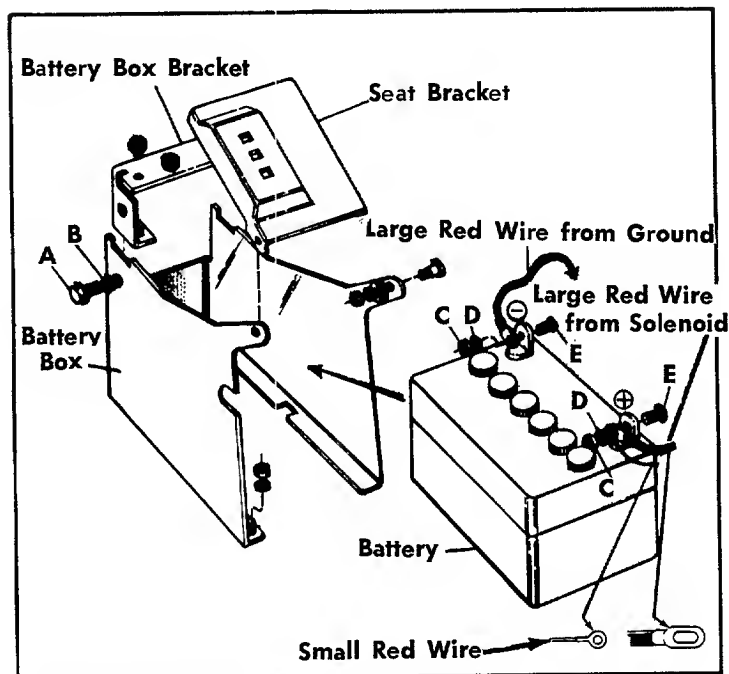

FIGURE 3. INSTALLING THE BATTERY
INSTALLING THE BATTERY (Electric Start Models Only) See figure 3.
- Step 2. Remove screw (A) and lockwasher (B).
- Step 5. Attach the large red wire from the solenoid and the small red wire to the positive (+) terminal of the battery with a 1/4" screw (E), washer (D) and nut (C).
- Step 6. Attach the large red wire from the ground (-) to the negative (-) terminal of the battery with a 1/4" screw (E), washer (D) and nut (C).
- Step 7. Replace the battery box bracket with screw (A) and washer (B). See figure 3.